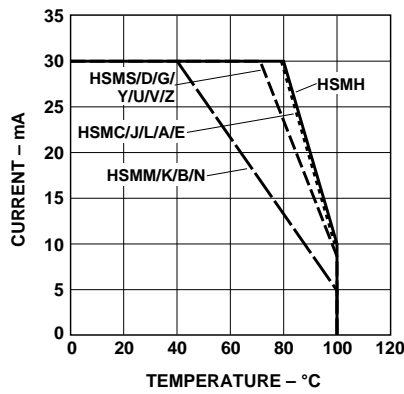

Figure 4. Maximum forward current vs. ambient temperature. Derated based on $T_{JMAX} = 110^{\circ}C$, $R\theta_{JA} = 500^{\circ}C/W$.
- Derate linearly as shown in Figure 4.